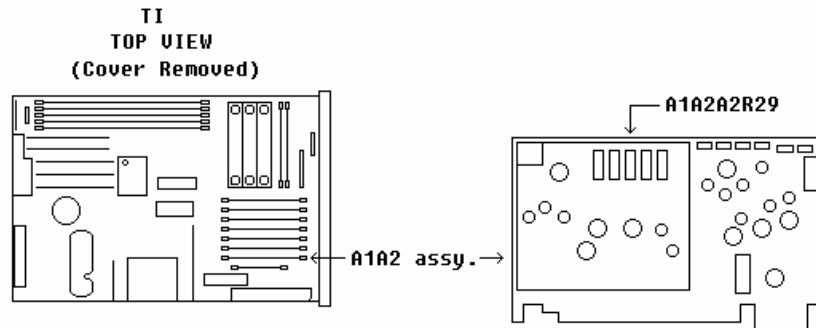
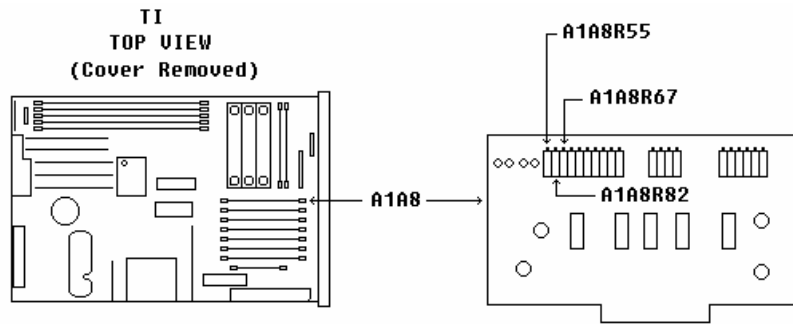

Figure 7. A1A2 board.
Figure 8. A1A8 board.
- (6) Press TI RCL 1.
- (7) Adjust A1A2A2R29 (fig. 7) for a measuring receiver indication of  $-3.0$  dBm (R).
(8) Using **TUNE KNOB**, tune the test instrument from 2 to 6.6 GHz. Record minimum and maximum measuring receiver indications and frequencies where they occur.
(9) Adjust A1A8R55 (fig. 8) to reduce the difference between minimum/maximum power indications (R).
- (10) Using **TUNE KNOB**, tune the test instrument to 2 GHz.
- (11) Readjust A1A2A2R29 (fig. 7) for a measuring receiver indication of 3.0 dBm.
- (12) Tune the test instrument from 2 to 6.6 GHz. Verify that the output level stays within  $\pm 1$  dB of -3 dBm.
- (13) Repeat (8) through (12) above until level stays within 1 dB of -3 dBm or until no further improvement can be made.
- (14) Press TI **RCL 2**.
- (15) Using **TUNE KNOB**, tune the test instrument from 6.600002 to 12.99902 GHz. Record minimum and maximum measuring receiver indications and frequencies where they occur.
- (16) Adjust A1A8R82 (fig 8) to minimize difference between minimum and maximum power indications (R).
- (17) Press TI **SWEEP MODE OFF, FREQ INCR, 2, 0, 0**, and **MHz** keys.
- (18) Verify the measuring receiver indicates  $-3$  dBm  $\pm 0.2$  dBm. Readjust A1A2A2R29 (fig. 7) as necessary for best compromise.
- (19) Using **TUNE KNOB**, tune the test instrument from 2 to 12.2 GHz. Verify that the difference between the minimum and maximum power indications are equal to or less than 3 dB.
- (20) Press TI **RCL** and **3** keys.
- (21) Using **TUNE KNOB**, tune the test instrument from 12.300003 to 17.59999901 GHz. Record minimum and maximum measuring receiver indications and frequencies where they occur.
(22) Adjust A1A8R67 (fig. 8) to minimize difference between minimum and maximum power indications (R).
(23) Press **TI SWEEP MODE OFF**, **FREQUENCY**, **2**, and **GHz** keys.
(24) Adjust A1A2A2R29 (fig. 7) for a measuring receiver indication of -3.0 dBm.